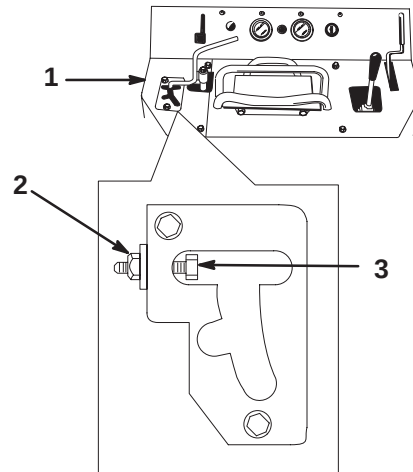

Figure 23
2. Remove the three bolts securing the left control panel cover and remove the cover (Fig. 23).
3. Loosen the jam nut on the adjustment bolt (Fig. 23).